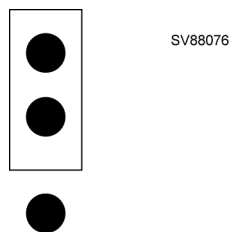
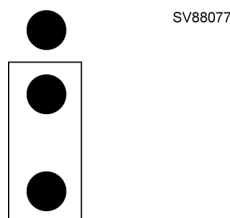

Figure 1 Boot Flash Position
Figure 2 Boot Strap Position
3. Remove the back panel and change the JP2 (on Control PCB P/N 4116632) or JP3 (on Control PCB P/N 4118079) connector on the control PCB from the Boot Flash position (Figure 1) to the Boot Strap position (Figure 2). Refer to or for proper connector locations.